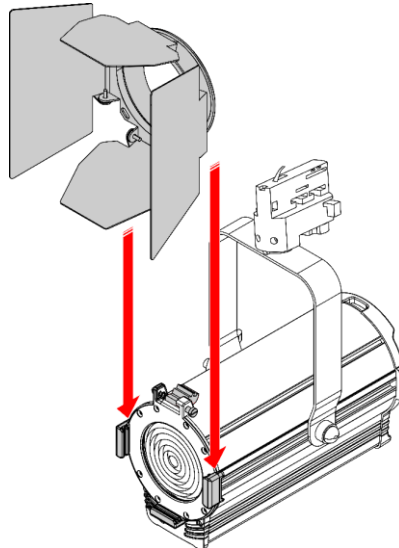

Fig. 14
- 02) Insert the barndoor into the **color frame holders (06)** (see Fig. 14).